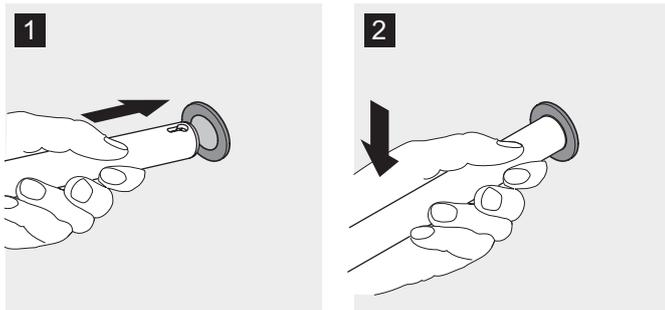

Fig. 14: Inserting merchandise support
1. Feed the merchandise support with a slight upward angle into the hole of the holder set up to the stop (Fig. 14/1), and then lower (Fig. 14/2).